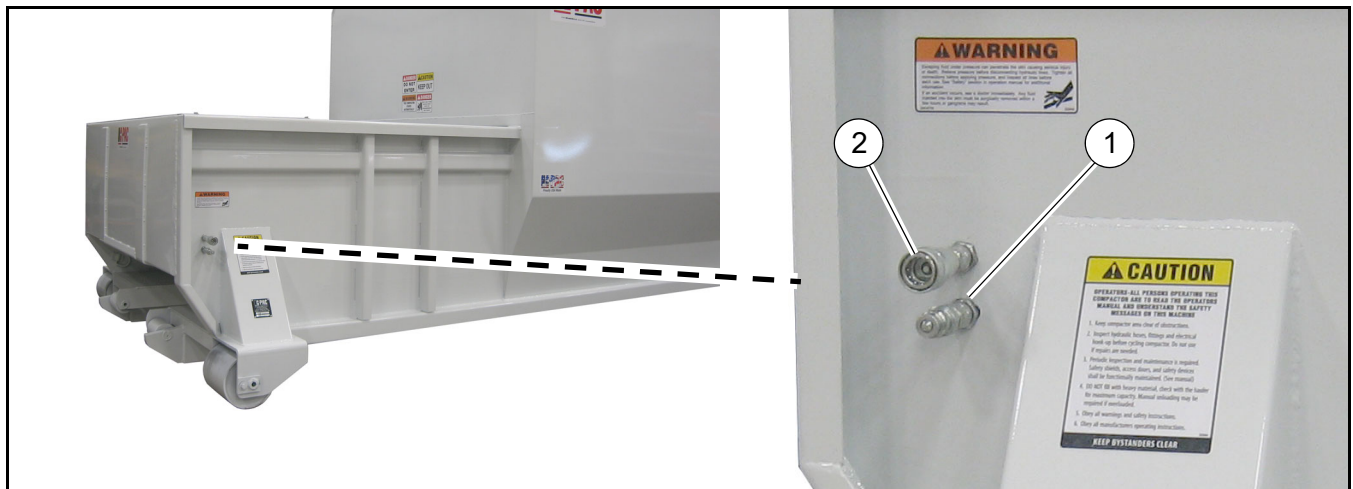

Figure 14
3. The ram cylinders extend hose connected to port (A) on the Power Pack manifold has a quick disconnect coupler on the end of the hose. Connect the coupler to the nipple (**Figure 14, 1**) located at the bottom.
4. The ram cylinders retract hose connected to port (B) on the Power Pack manifold has a quick disconnect nipple on the end of the hose. Connect the nipple to the coupler (**Figure 14, 2**) located at the top.